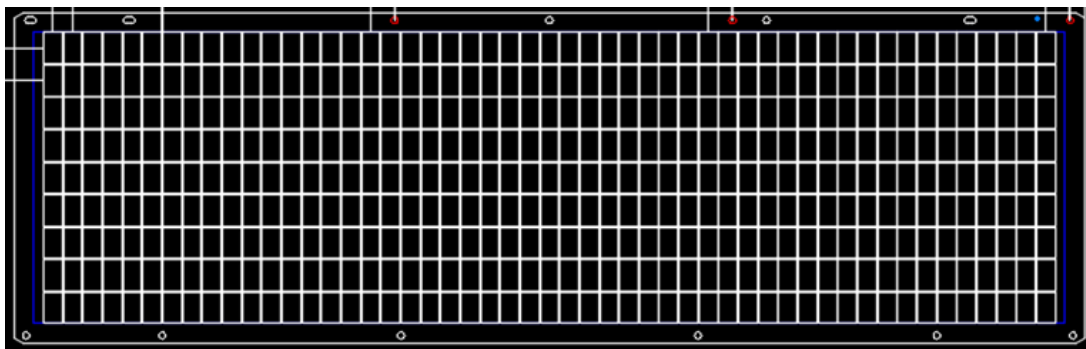

Fig. 1. Substrate strip in array format.
- During the die attach process, die is bonded to the substrate in array format as shown in Fig. 1.